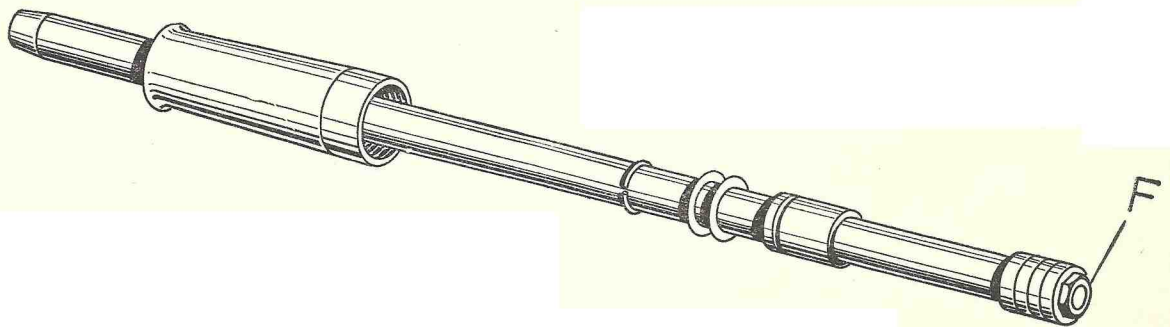

Fig. X4.
Grip the shaft in a vice using soft-jaw clamps on the unground portion of the shaft and unscrew the gland nut (F) Fig. X4. Service Tool part number 61-3003 is designed for this purpose. Remove the gland nut which secures the lower bearing and both bearings, shims, circlip and oil seal holder will then slide off the shaft.